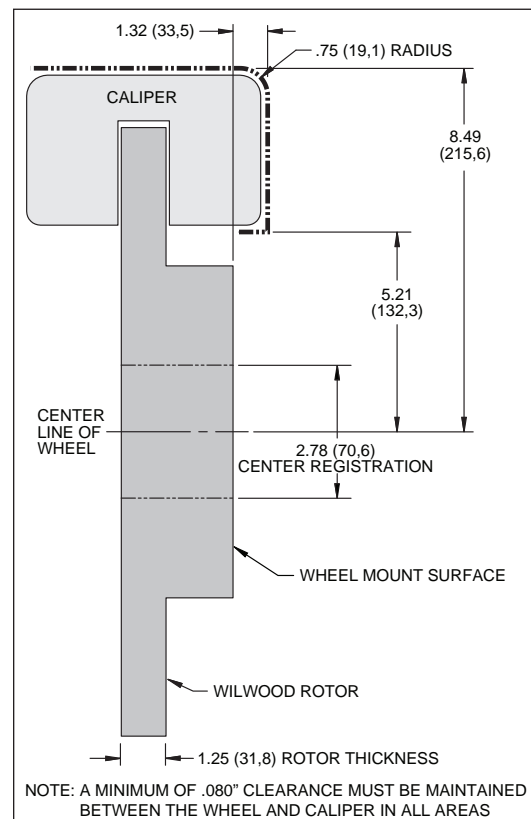

Figure 2. Wheel Clearance Diagram
- Review the Wheel Clearance Diagram (Figure 2, page 3) to verify that there is adequate clearance with the wheels you will be using with the installation.
- Verify your wheel clearance using Figure 2.